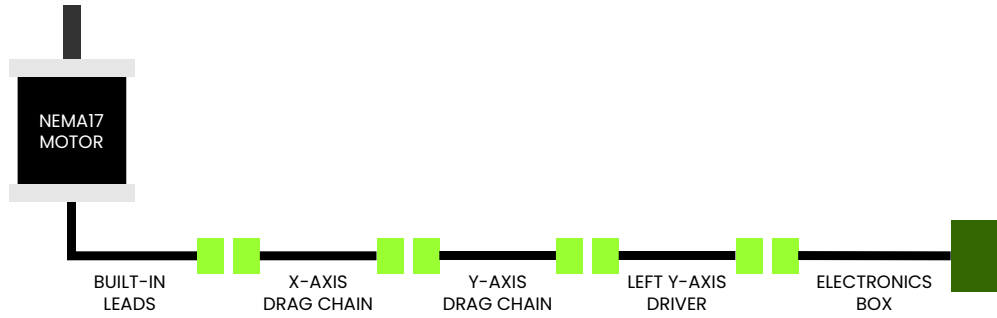

Figure 42: Cabling stages for the antennae motors.
The cabling for the antennae motors consists of providing them with power from the electronics board to the motors themselves. The cabling should be done in such a way that its parts are located in the different major components. Figure 42 presents the cabling stages for the antennae motors. A total of eight (8) 4-pin connectors and 4350 millimeters of 4-phases cable are needed in order to execute the antennae motors cabling. Table 2 presents the procedure for cabling the antennae motors.